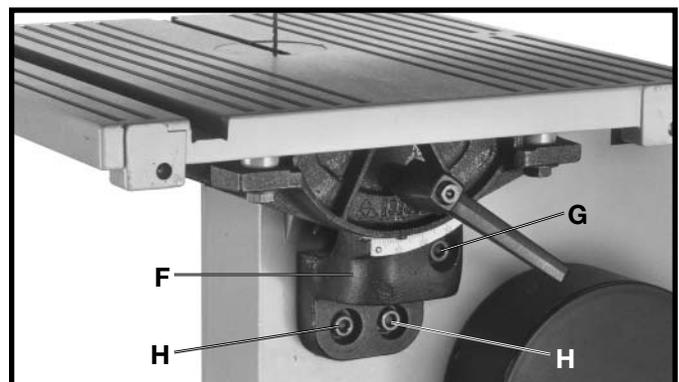

Fig. 9
2. Align the three holes in the table bracket (F) Fig. 9, with the three holes in the side of the band saw. Place a M8.4 flat washer onto a M8x1.25x70mm. Insert the screw through the hole (G) Fig. 9, in the table bracket and thread the screw into the hole in the band saw, and tighten securely.
3. Place a M8.4 flat washer onto a M8x1.25x20mm. Insert the screw through the hole (H) Fig. 9, in the table bracket and thread the screw into the hole in the band saw, and tighten securely. Repeat this process for the remaining hole (H) Fig. 9.